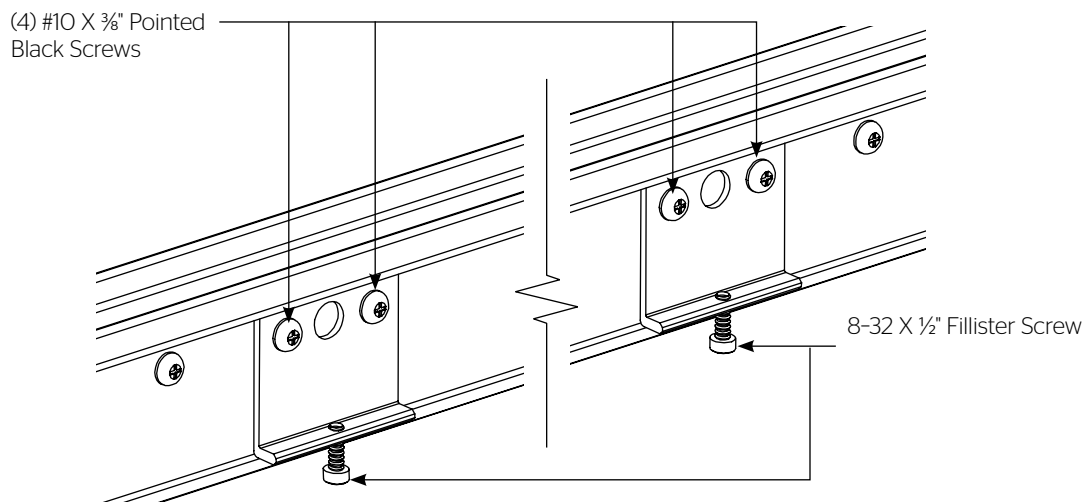

Figure 7 – Screens 104" and Over in Viewing Width
b. For screens 104" wide viewable and over, attach (2) frame brackets. If your screen is 104" or over in viewing area width (Figure 7).